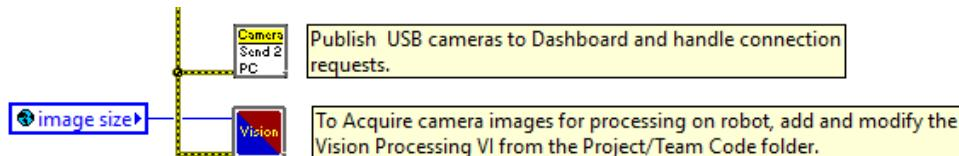

FIGURE 5.24 Vision Processing.VI added to Robot Main.VI.
- Edit the block diagram of Robot Main.VI. Add a call to the Vision Processing.VI and connect its error input from the error output of Begin.VI. Fig. 5.24 shows this. Save your changes.